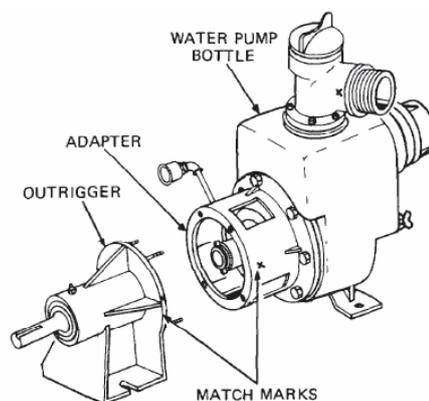

Figure 29 Outrigger Removal
- g. Match mark the outrigger to the adapter (Figure 29).